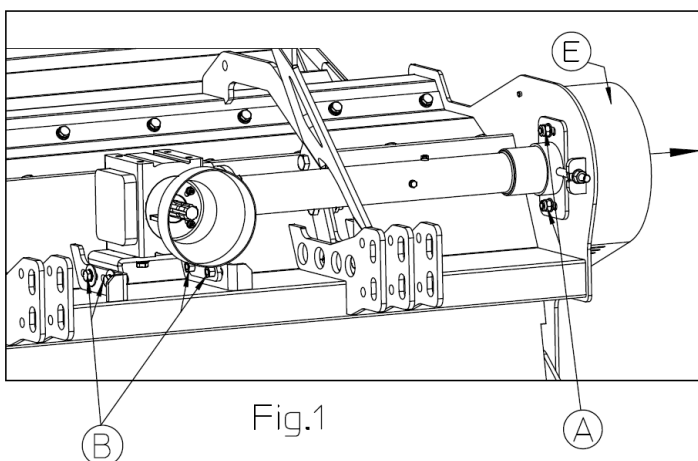
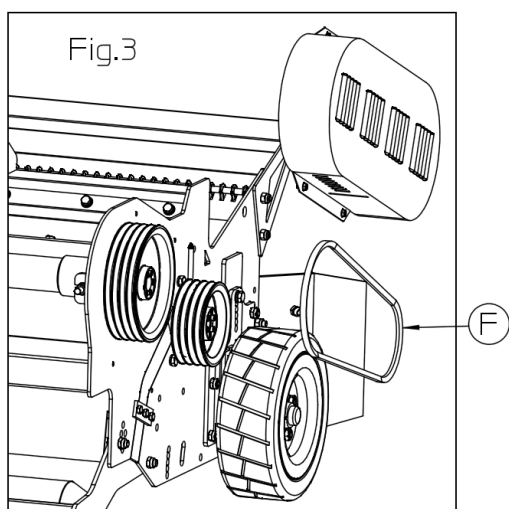
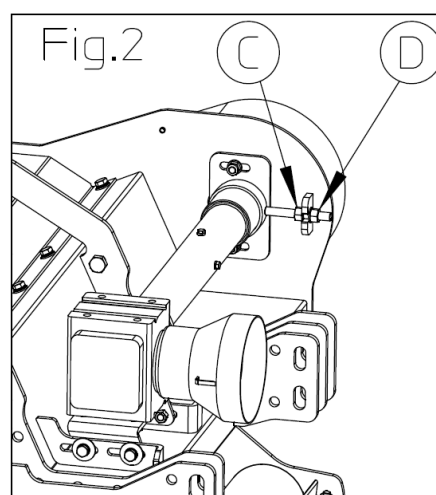

Fig.1
Fig.3
Fig.2
- 5- Unscrew and remove the bolt E (Fig. 2);
- 9- In order to replace the hammers at the extremities of the rotor in which fixing screw D is inserted in inverse direction to the other screws, remove cover F (see Fig. 2 on next page) or the closing plate N (see Fig. 3 on next page). In order to remove the closing plate N, proceed as indicated in Points 6 to 8 of Par. 8.6.2; follow Points 19 to 22 for its reassembly.
- 5- Remove screw E and remove the cover over hole F (Fig. 2) in order to then remove the pin holding hammer R (Fig. 4);
- 6- Dismantle the belt protection housing G and loosen the belt tensioner H (Fig. 3);
13- With a pin Q with diameter 25-28 mm and a mallet, start to remove the hammer pin R using the hole to remove the pin (see Fig. 2);
18- Turn the machine in horizontal position with great care, refit cover F and screws E (see Fig. 2);
23- Reinstall the conveying guards D and front protective guard B (see Fig. 1);
- 4- Using an appropriate spanner, undo connections C (see Fig. 2 as example); to replace the tubes supplying the hydraulic motor proceed by removing screws B and the motor protection housing A (Fig. 1);
- 3- Remove the chain protection housing E (Fig.1);
- 5- Loosen the screws C and D (Fig.2);
- 6- Loosen the tension of belts F and replace them with original spare parts (Fig. 3);